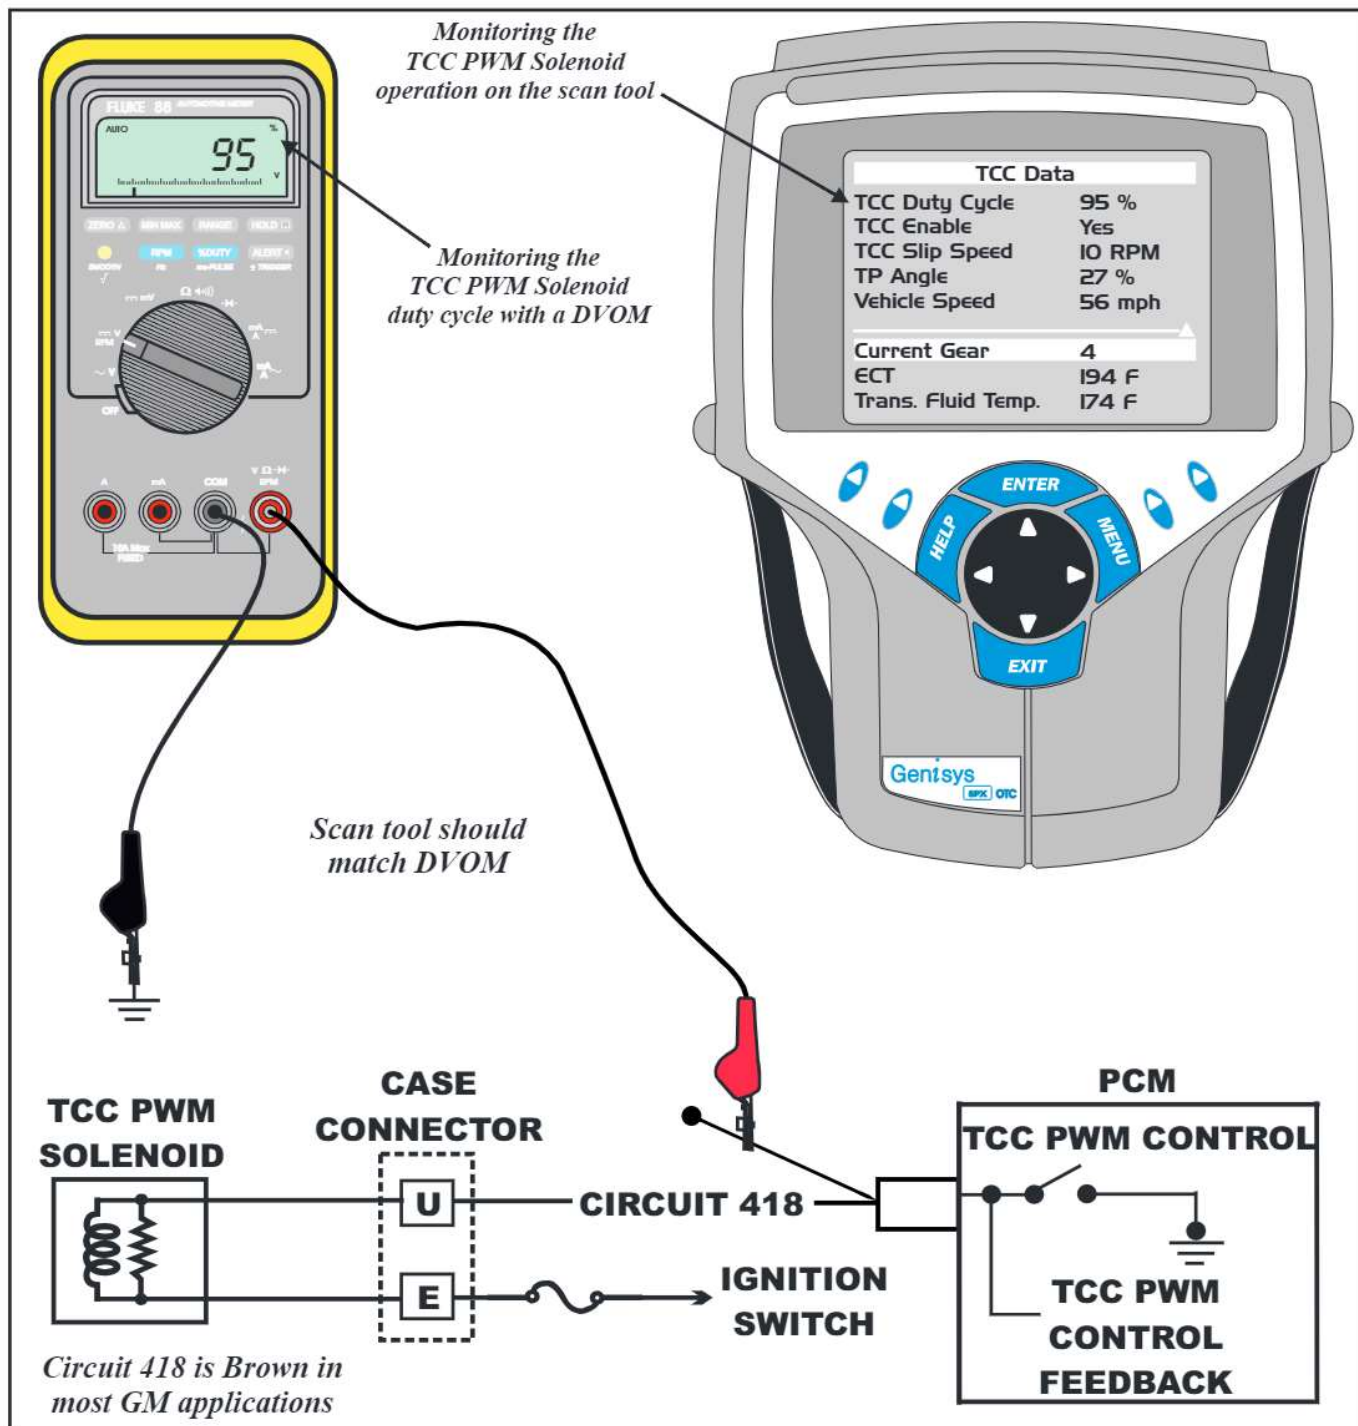

Figure 115
- The operation of the TCC PWM Solenoid is displayed on the scan tool as percentage of duty cycle. ADVOM set to the duty cycle position can be used to see actual duty cycle and the compare it to the same scan tool parameter to insure the scan tool is telling the truth as seen in Figure 115.
- Either check the current flow on the circuit with a low current clamp, or, cut the wire and place your meter in the circuit, or use some type of device that is capable of inducing a load on the wire such as a headlamp, crude as this may be, it works. A DVOM set to Duty Cycle (%) will also work well as seen in Figure 115.
- The PWM 3-2 Solenoid can be checked on the scan tool by viewing the percentage of duty cycle or with a DVOM voltage setting or with it set to duty cycle similar to the illustration in Figure 115.